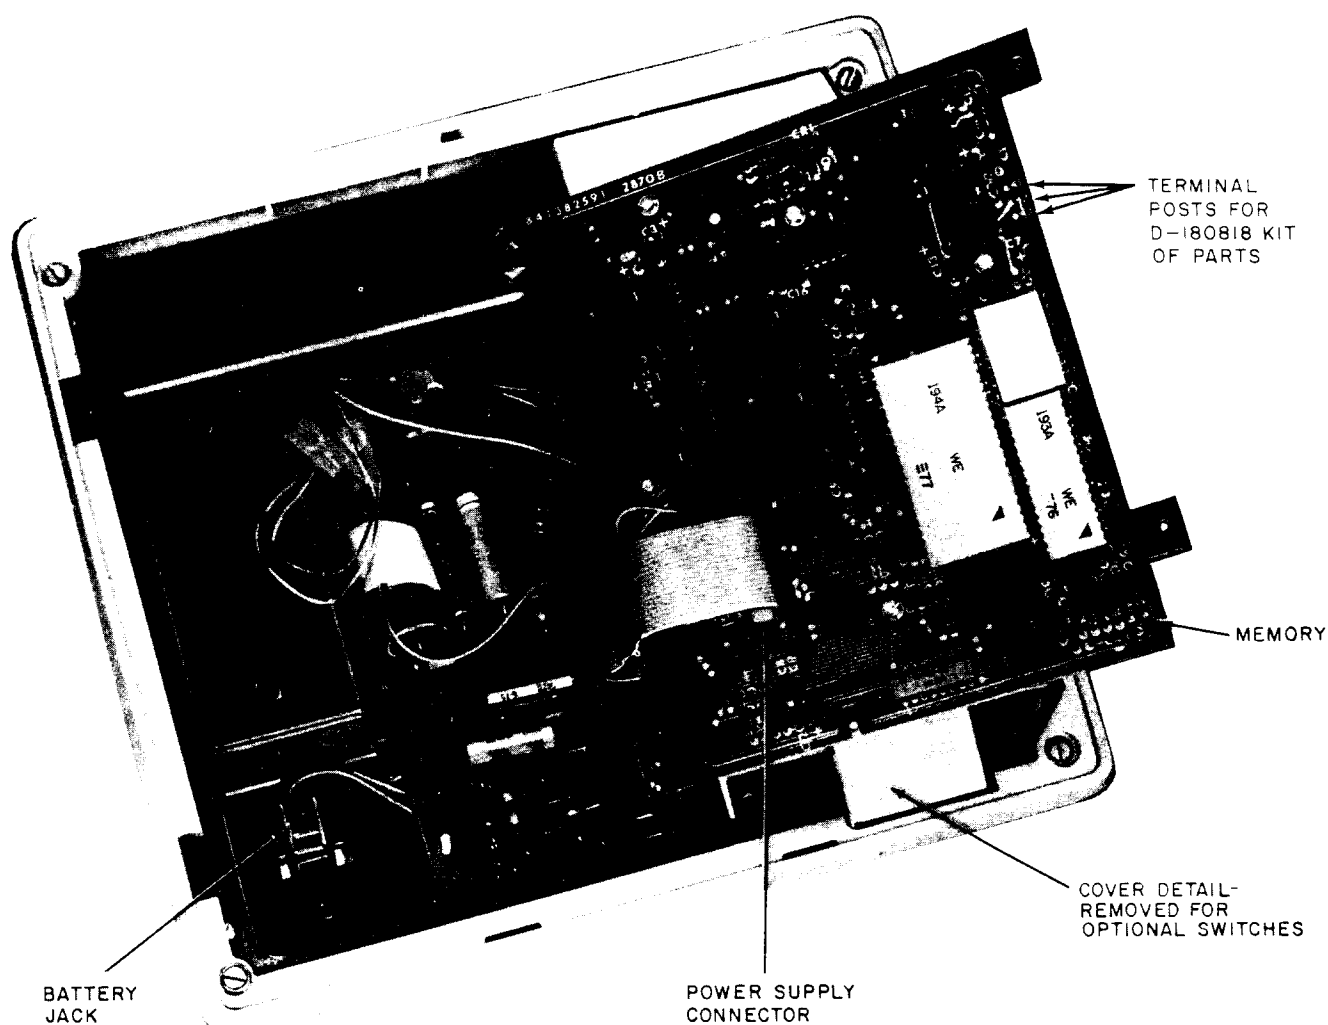

Fig. 4—2870B1M Dial, Internal View
- (5) Rotate the left edge of the memory upward as shown in (Fig. 4).
- (4) Rotate the left edge of the memory upward and over dial area as shown in Fig. 4.
- (5) Disengage the connector(s) by pulling on them perpendicular to the printed wiring board.
- (6) Replace the memory by engaging the dial connector (2870B1M only) first. The connector(s) are keyed, one position is filled and should fit over the vacant position in the row of pins. The flat power supply cable should not be twisted.
- (7) Reassemble adjunct dial.
- (8) Reconnect battery and power unit.
- (9) Test per paragraph 3.06 or 3.07 as required.